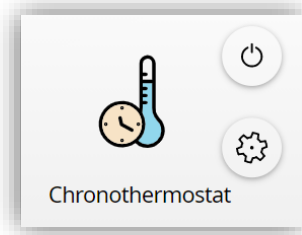

Figure 115. Chronothermostat box
- **Enablement** [*0 = Disable; 1 = Enable* / *0 = Enable; 1 = Disable*]: selects the polarity of the control object "[Ci] Chronothermostat: Enable", which will enable or disable the chronothermostat analogously as from the on-screen switch button of the box (see Figure 115). The box configured as a chronothermostat control looks as follows: